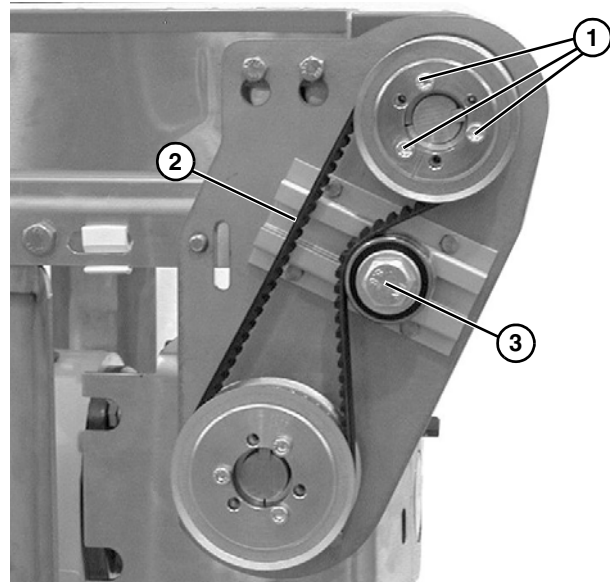

Figure 10
9. Tighten driven pulley taper-lock screws (Figure 10, item 1).
10. Tension timing belt to obtain 1/8" (3 mm) deflection for 6 lb (3 Kg) of force at timing belt mid-point (Figure 10, item 2). Tighten tensioner screw (Figure 10, item 3) to 110 in-lb (12 Nm).